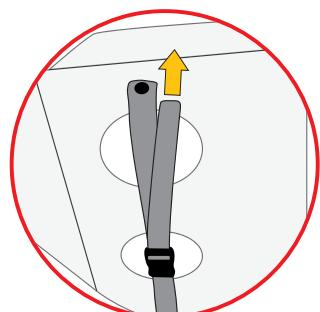

Fig. 18
- close the nylon buckles and tension the webbing (fig. 18).